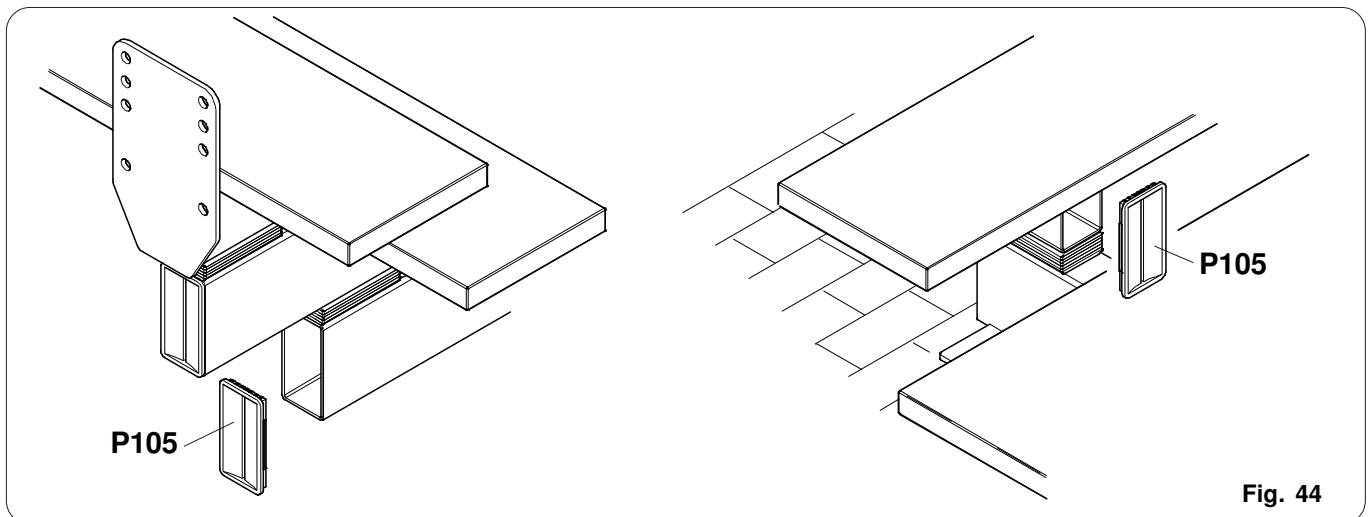

Fig. 44
- Mount the **P105** plugs both in the front and back side of the step support modules (fig. 44)